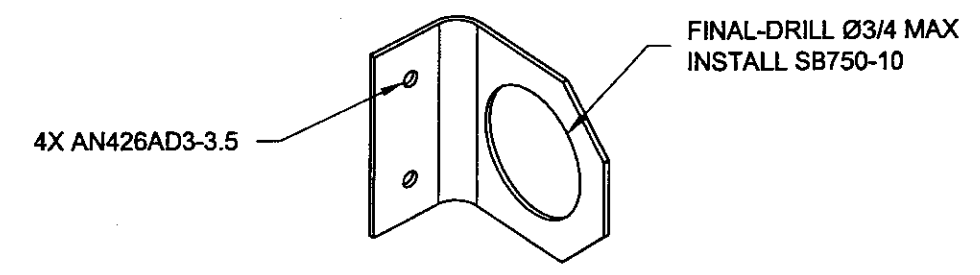

FIGURE 4: MODIFYING THE GUIDE BRACKETS
Step 4: Final-drill the F-1016H Guide Brackets as shown in Figure 4. Drill using a drill press and drill press vise or clamp the part securely in a bench vise. Prime if desired. Rivet them in place as shown in Figure 3 using the hardware called out in Figure 4.